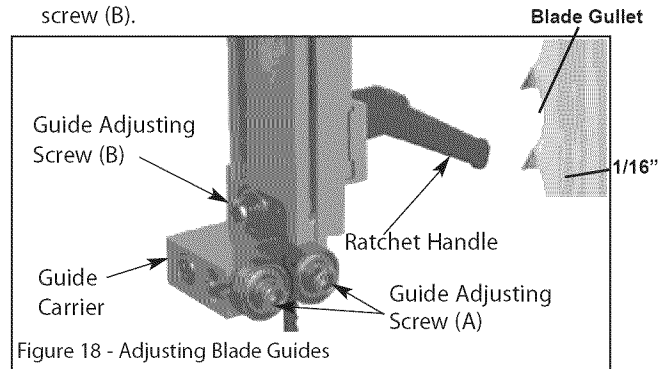

Figure 18 - Adjusting Blade Guides
See Figure 18.
- To adjust the upper blade guides, first position the right and left roller guides relative to the blade by slackening the ratchet handle (Figure 18) and moving the guide carrier until both roller guides are approximately $\frac{1}{16}$ " behind the gullets of the saw blade.
- Set both roller guides to within $\frac{1}{32}$ " of the saw blade by releasing the guide adjusting screw (A) on each side of the saw blade. Do not set the roller guides too close as this will adversely affect the life of the saw blade.
- Adjust the rear roller guide to be just clear of the back of the saw blade by unlocking the guide adjusting screw (B).
- When the correct adjustment is reached, lock the rear roller guide in position with the guide adjusting screw (B).
- To adjust the lower blade guides, first position the right and left roller guides relative to the blade by slackening the lock nut and moving the guide carrier until both roller guides are approximately $\frac{1}{16}$ " behind the gullets of the saw blade. (See Figure 18)
- Set both roller guides to within $\frac{1}{32}$ " of the saw blade by releasing the guide adjusting screw (C) on each side of the saw blade. Do not set the roller guides too close as this will adversely affect the life of the saw blade.
- Adjust the rear roller guide to be just clear of the back of the saw blade by unlocking the guide adjusting screw (D).
- When the correct adjustment is reached, lock the rear roller guide in position with the guide adjusting screw (D).